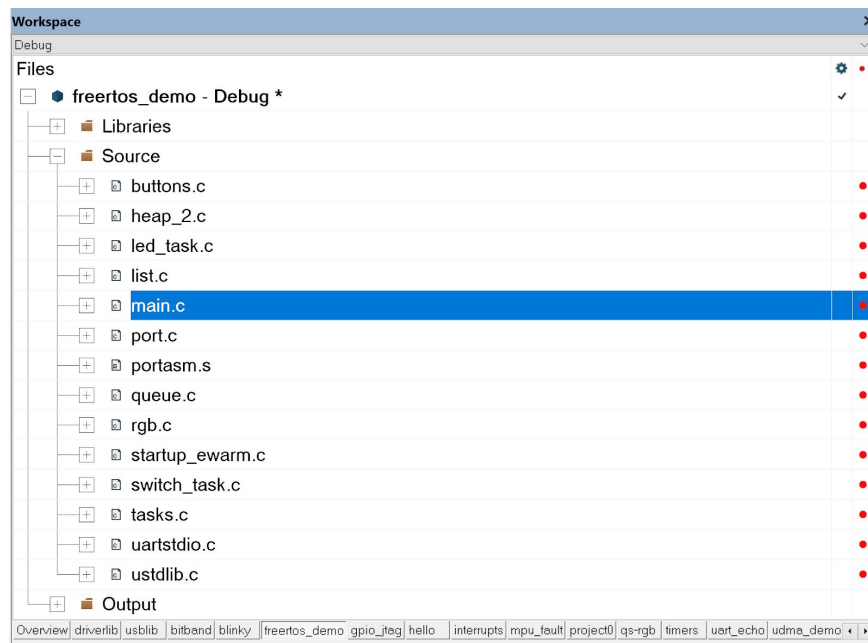

Figure 8: The freertos\_demo project with the added starter code (main.c)
6. Replace the freertos\_demo.c with the main.c we provided, which can be found under Canvas -> Files -> Labs -> Lab4 -> RTOS. We will only be using files #include by the starter code for this assignment; all other files you see in this directory is out of the scope of this assignment. Your project tab should now look similar to Figure 8.